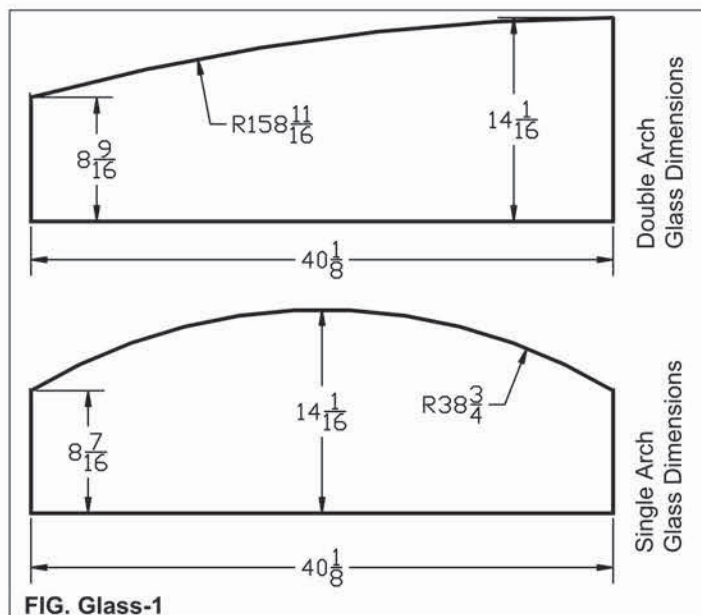

FIG. Glass-1
- 4) Insert the new glass. The glass should be 17-5/8" x 14-1/16" (short panel windows) or 40-1/8" x 14-1/16" (long panel windows). See illustration below for glass dimensions of single or double arched windows. (FIG. Glass-1)